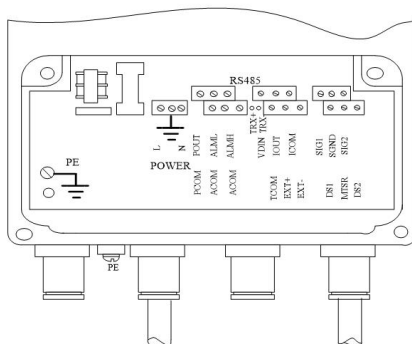

Fig.23
**Note:** Switch A in Figure 23 is the Pt1000 thermal resistor and Pt100 thermal resistor selector switch. The factory default setting is Pt1000 RTD, with Switch 1 and Switch 2 set to OFF. If a Pt100 RTD is adopted, set both Switch 1 and Switch 2 to ON.
(2) Integrated version